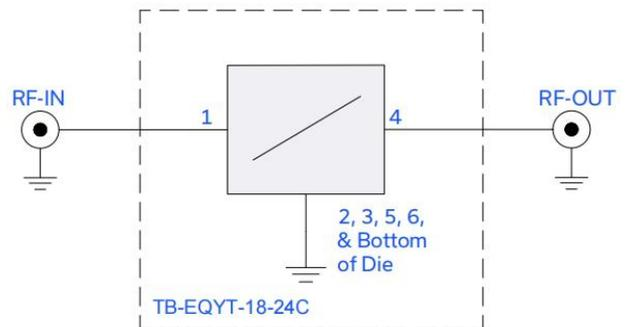

Fig 1. Characterization & Application Circuit
1. Die is soldered in a 16L 3x3mm package and measured on Yantel Characterization Test Board TB-EQYT-18-24C. See Characterization & Application Circuit (Fig.1).